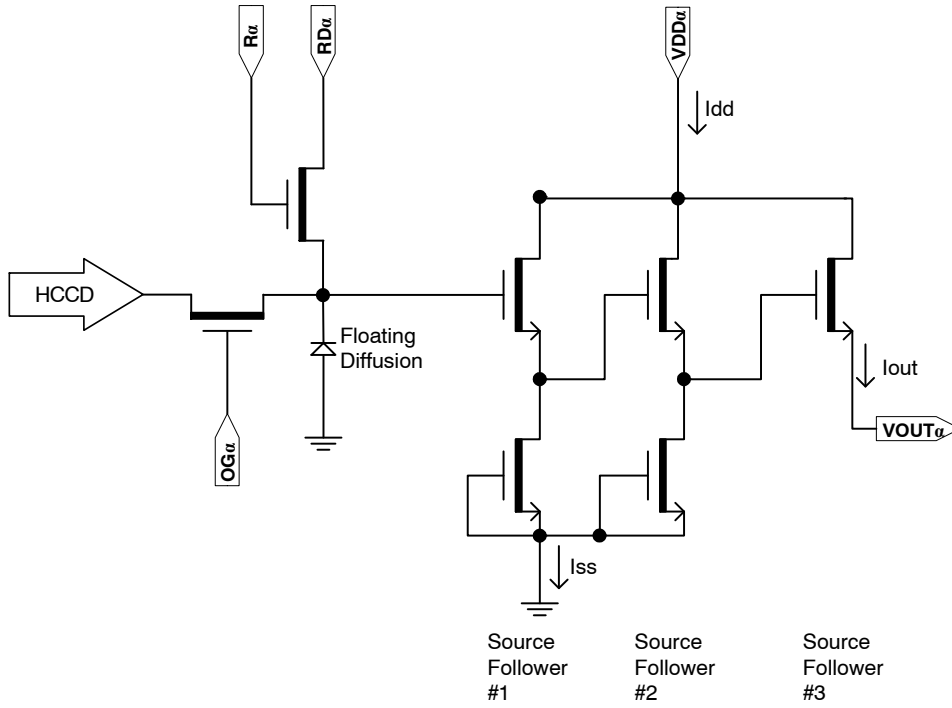

Figure 17. Output Amplifier
- The maximum DC current is for one output. Idd = Iout + Iss. See Figure 17.